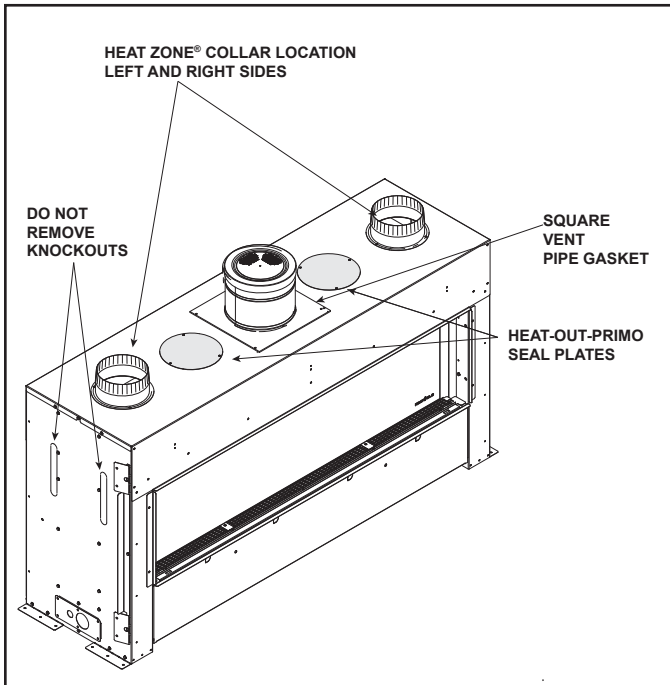

Figure 6.9 HEAT-ZONE-PRIMO
- Install the HEAT-ZONE-PRIMO collars on the left and right sides of the appliance with screws. See Figure 6.9.